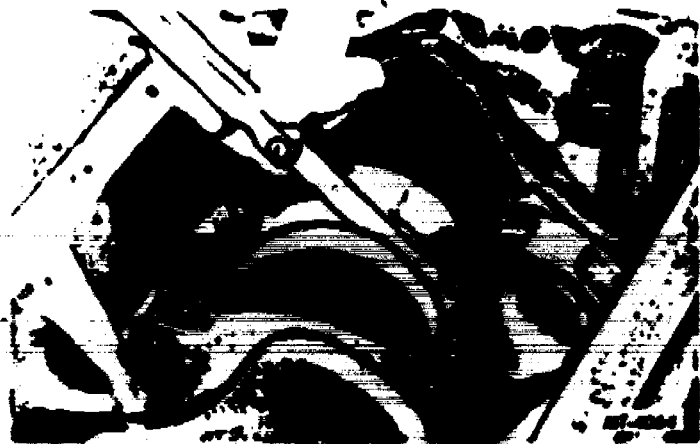

Fig. 36 - Checking Connecting Rod Side Clearance
5. Check the connecting rod side clearance using a feeler gauge as shown in Fig. 36. Excessive clearance may require replacement of rods or shaft. The check should be made to make certain that the specified running clearance exists. Lack of clearance could indicate a damaged rod or perhaps a rod bearing out of position.